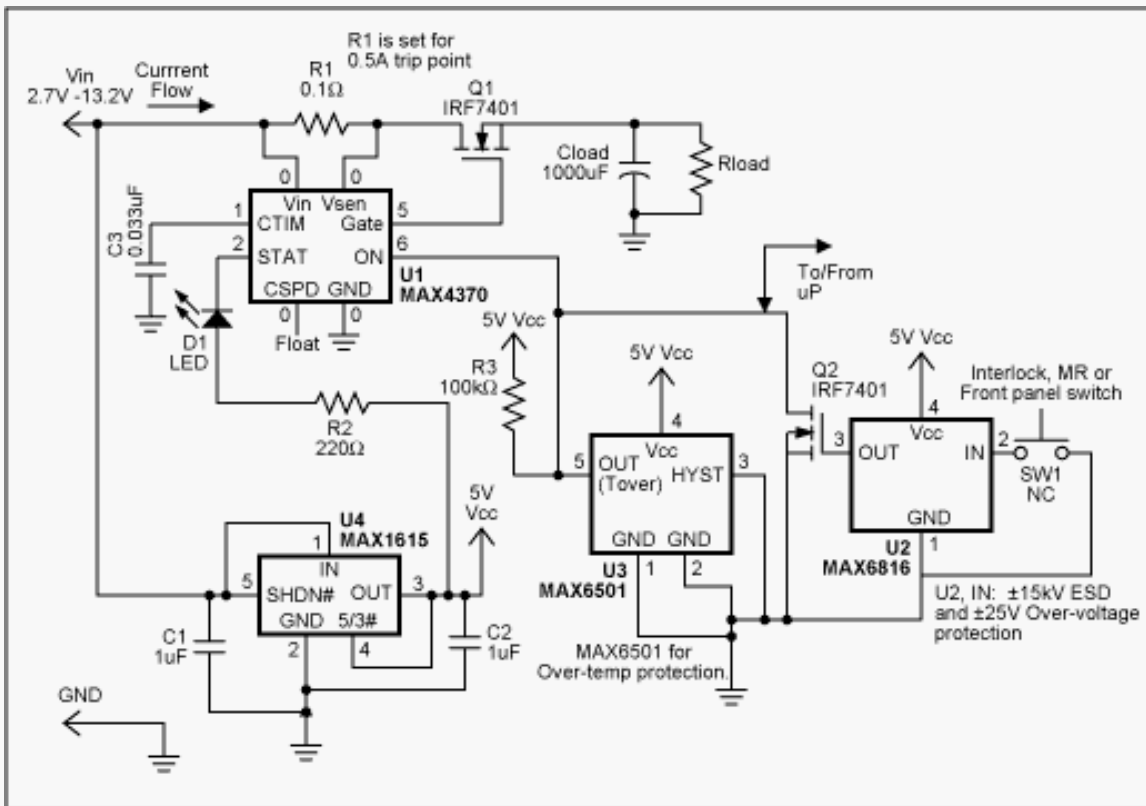

Figure 1. This circuit provides general over-current and over-temperature protection.
Figure 1 is a flexible circuit that limits current or removes power in response to a command from the user, or other fault-indicating signal. It accommodates manual-reset (MR), over-temperature, and interlock-switch inputs.